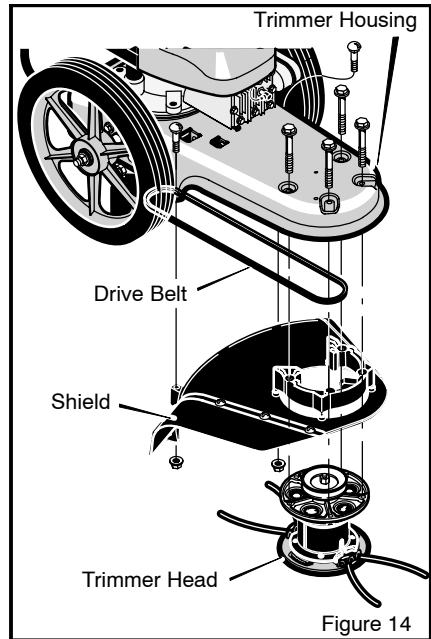

Figure 14
1. Remove the two fasteners that hold the rear of the **shield** to the **trimmer housing** (See Figure 14).